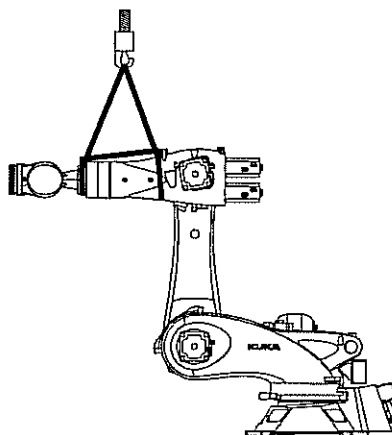

Fig. 12-6: Securing the arm
1. Secure the arm using a rope sling (>>> Fig. 12-6).